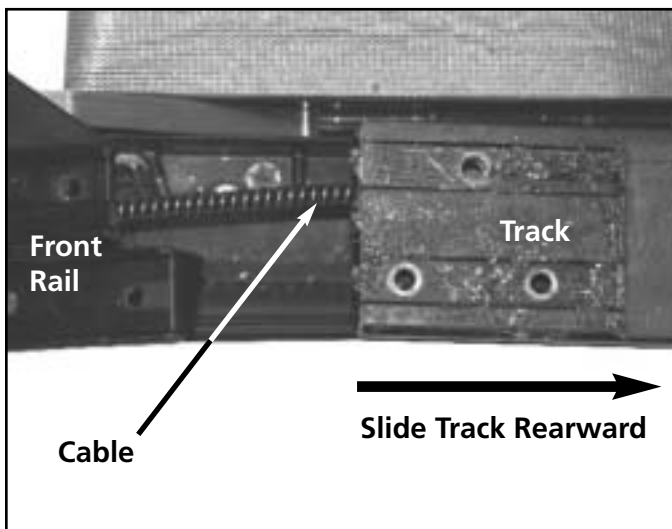

Figure S-81
9. Drill out the rivets on one of the tracks and slide the track away from the rail assembly disengaging it from the lifters. See figure S-81.